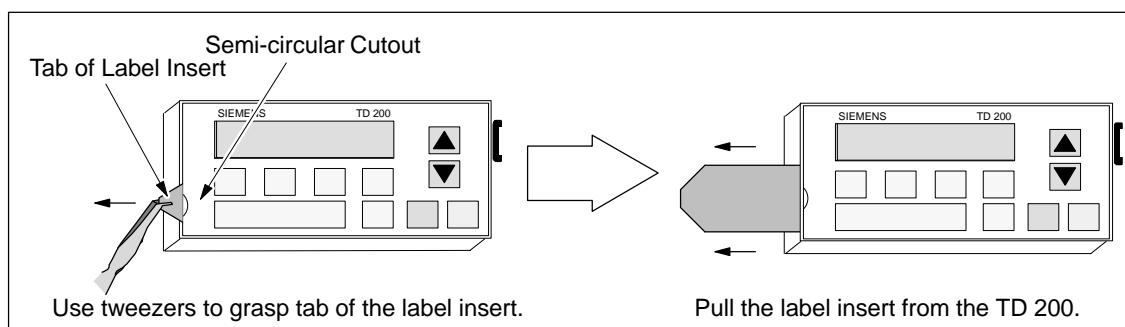

Figure 1-2 TD 200 Keyboard Label Insert
The keyboard has a removeable label insert (shown in Figure 1-2), so that you can supply a custom keyboard template. Figure 1-3 shows the TD 200 keyboard label insert dimensions.
1. Remove the label insert by pulling the label insert tab out of the semi-circular cutout with a pair of pointed tweezers. See Figure 1-2.